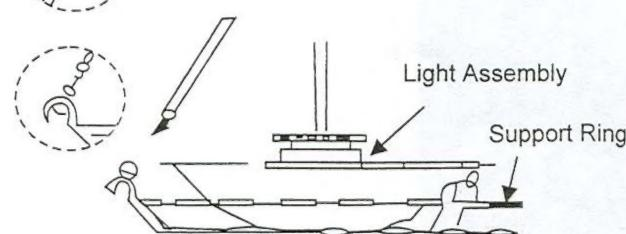
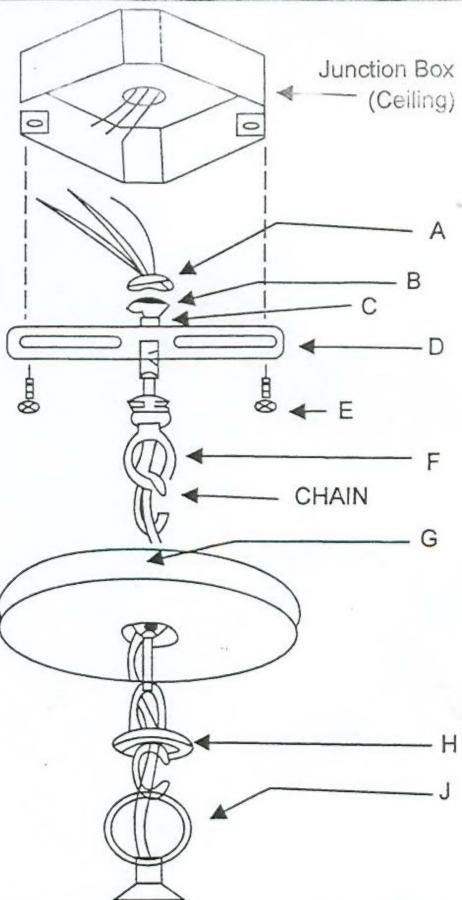

Fig. 2
Fig. 3
**HANGING THE FIXTURE (Fig. 2)**
1. Thread nipple (C) into loop (F) until snug.
2. Thread other end of nipple (C) with loop attached into crossbar (D) until snug.
3. Place lock washer (B) over end of nipple protruding through crossbar and thread hex nut (A) onto nipple until tight.
4. Take this crossbar assembly and mount to ceiling junction box with junction box screws (E). Tighten screws securely with screwdriver.
5. Slip loop collar (H) over the chain then do the same with the Canopy (G).
6. Open the other end link of the chain and hang the fixture on the loop at the ceiling (F). Close the link.
7. Feed the fixture wires through the loop (F), and nipple (C) and pull until taut.
**CONNECTING THE WIRES (Fig. 3 & 4)**
1. At this point, connect the electrical wires as shown in (Figure 3) making sure all wire nuts are secured. You may have to wrap the connections with electrical tape. If your outlet has a ground wire (green or bare copper) connect fixtures ground wire to it. Otherwise connect fixtures ground wire directly to the crossbar (D) using the green screw provided.
2. Tuck these wire connections neatly into the ceiling junction box and then raise the canopy (G) all the way to the ceiling. Raise the lock collar (H) and thread onto ceiling loop (F) protruding through canopy. (Fig. 3)